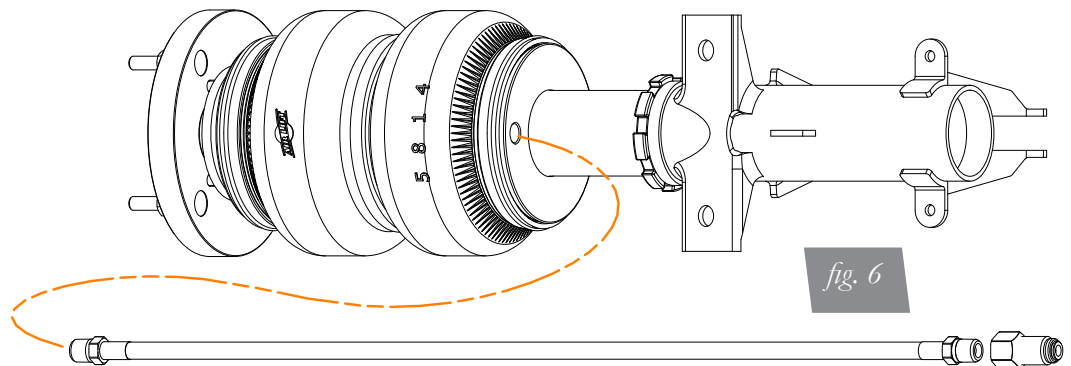

fig. 6
1. Prior to installing the strut, apply Teflon tape or thread sealant to ALL threads of the braided air line and thread into the lower end cap of the air spring. Torque 1-3/4 turns beyond hand tight. Thread the air fitting onto the braided line. Torque 1-3/4 turns beyond hand tight (fig. 6).